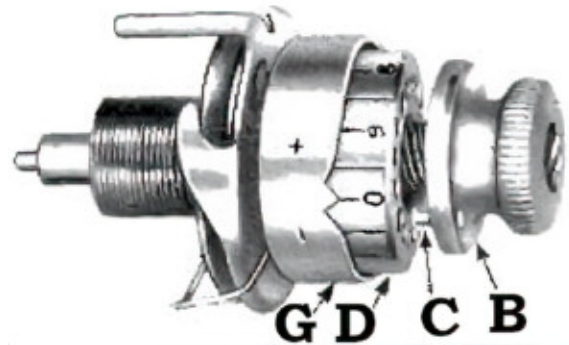

FIG. 44
Turn the tension regulating thumb nut (B, Fig. 44) until zero on the tension index flange (D) is opposite the pointer on the tension indicator (G);